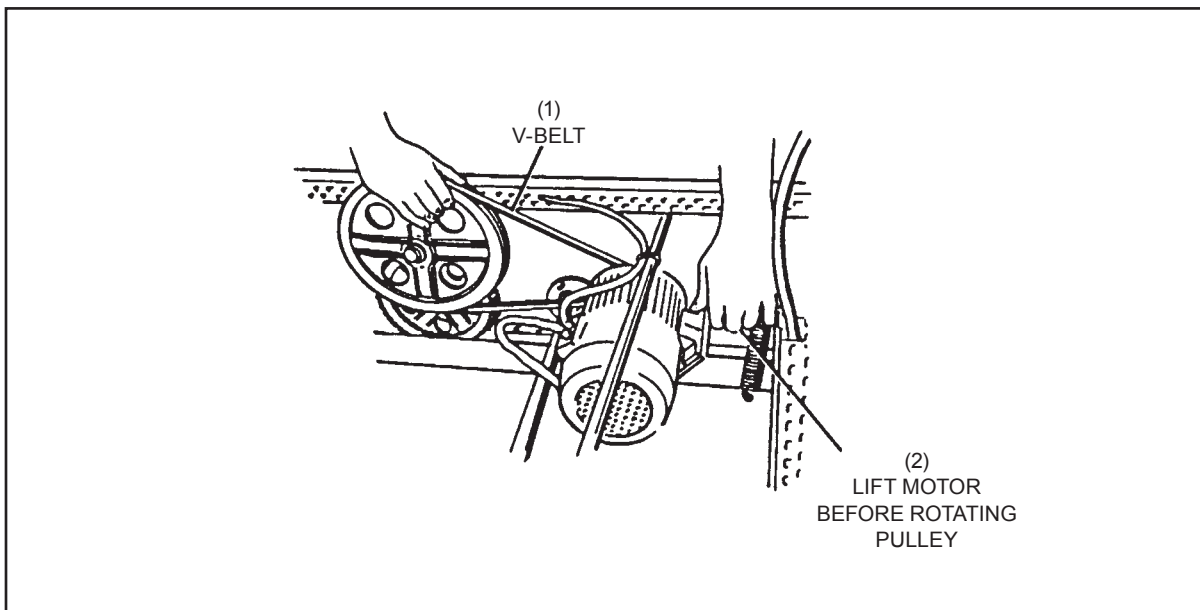

Figure 8-1. Manually Raising or Lowering the Setting Table
3. Firmly grip the top of the large table V-belt pulley. Refer to *Figure 8-1*.
(1) 914 mm (3') LONG 1 X 4 SPACER (2) SETTING TABLE
3. Manually lower the setting table assembly so it is supported by the spacers. Refer to *Figures 8-1* and *8-2*.